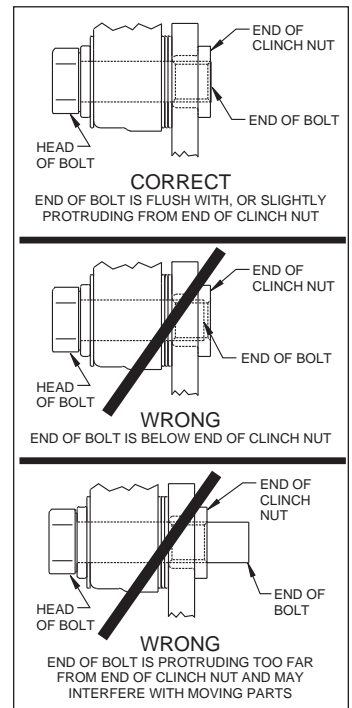

Figure 3. Clinch Nut Engagement Diagram
Assembly Instructions (numbers in parenthesis refer to the parts list, on the preceding page and Figure 1): **CAUTION:** All mounting bolts must fully engage clinch nuts. Be sure to check that all bolts are either flush or protruding through flanged side of clinch nut after shimming, Figure 3.
- NOTE:** Please reference the caution statement at the beginning of the assembly instructions. This kit contains distinct right and left hand calipers that must be mounted in a specific direction, as described below. Mount the caliper (20) onto the caliper mounting bracket (1) using bolts (21) and washers (22), as shown in Figure 1. Initially place two .035" thick shims (23) on each bolt between the caliper and the bracket, Photo 8. Ensure that the caliper is mounted so the largest pistons are at the rotor exit end of the caliper, in relation to the direction of rotor rotation. Temporarily tighten the mounting bolts and view the rotor (13) through the top opening of the caliper. The rotor should be centered in the caliper, Photo 9. If not, adjust by adding or subtracting shims between the bracket and the caliper. Always use the same amount of shims on each of the two mounting bolts. **NOTE:** The end of each bolt must be flush with or slightly protruding from the head of the clinch nut, as shown in Figure 3. If necessary place spare shims between washer (22) and caliper mounting ear to achieve the proper clinch nut engagement. Once the caliper alignment and clinch nut engagement are correct, remove the caliper.